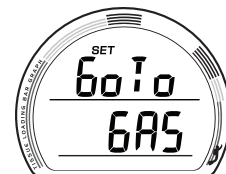

Fig. 26 - SET GAS LEAD-IN
**NORM/TECH SET GAS LEAD-IN**, information includes (Fig. 26):